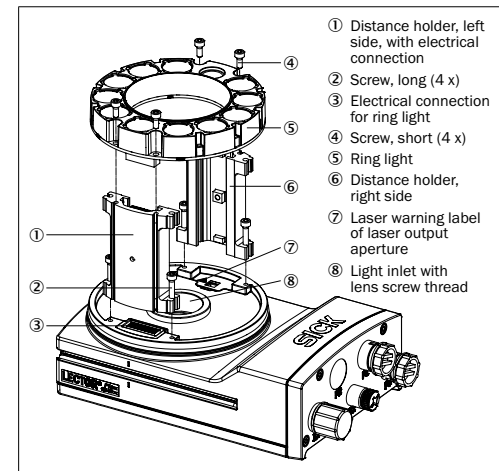

Fig. 3: Mounting the integrable illumination unit on the camera housing
2. If required for the country in question, stick the French laser warning label supplied over the English laser warning label in the camera housing (Fig. 3, ⑦). Make sure to stick the label exactly over the other one. For safety reasons, the English laser warning label must not be removed!
3. Remove the protective cap from the round light inlet (Fig. 3 ⑧).
- Do not touch the open contacts of the electrical connection (Fig. 3, item ③) for the illumination unit on the camera housing.
1. Peel off the white protective sticker on the camera housing that covers the electrical connection ③ for the illumination unit.
2. Take two pairs of long screws and screw them into the threaded mounting holes to attach each spacer ① and ⑥ to the correct side of the camera housing.
3. Use the 4 short screws to attach the illumination unit ⑤ to the two spacers.